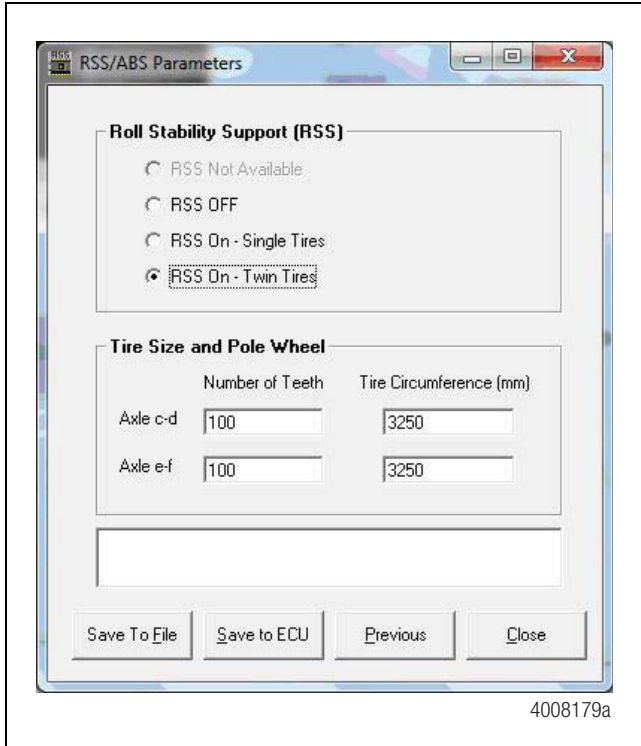

Figure 7
- From the parameter screen labeled *RSS / ABS Parameters*, enter the appropriate information in the Vehicle Data area. There is no change in parameters at this screen. Press the **Save To ECU** button located at the bottom of the window. Figure 7.